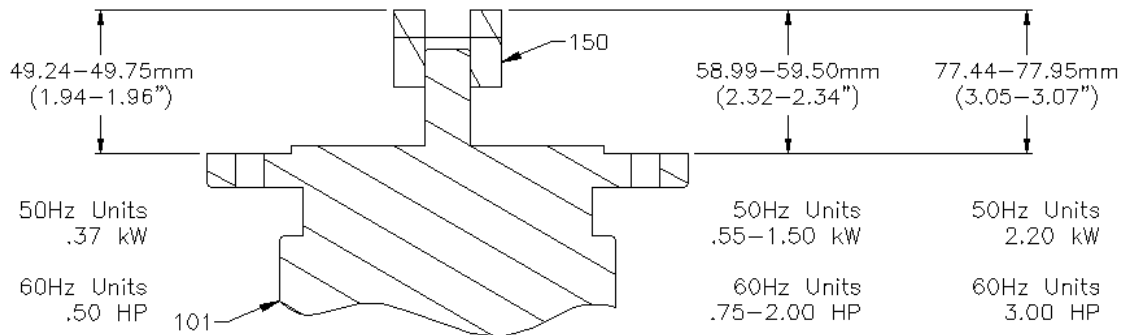

FIGURE 10 – MOTOR COUPLING PLACEMENT
- a. Install the lower retaining ring (44), if removed, in the housing (36).
- b. Mount the housing (36) in an arbor press, large end up.
- c. Press the bearing (37) on its outer race to seat against retaining ring (44).
- d. Install the upper retaining ring (44).
- f. Press the quill shaft (35) into the bearing until the shoulder of the shaft registers against the inner race of the bearing.
- g. Install the upper retaining ring (56) in the shaft groove.
- h. Turn the housing large end down, and press the lower oil seal (49) until it is flush with the end of the housing.
- a. Position the motor coupling hub (150) as shown in Figure 10.